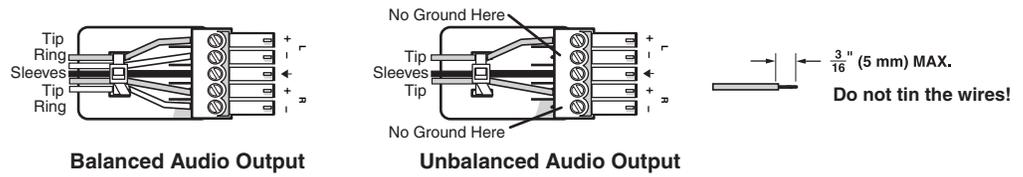

Figure 3. Audio Output Wiring
- E Analog audio output connector** (see figure 2 on page 5) — Connect a balanced or unbalanced, stereo or mono audio output device to the 3.5 mm, 5-pole captive screw connector for analog audio output (see figure 3 for wiring details).